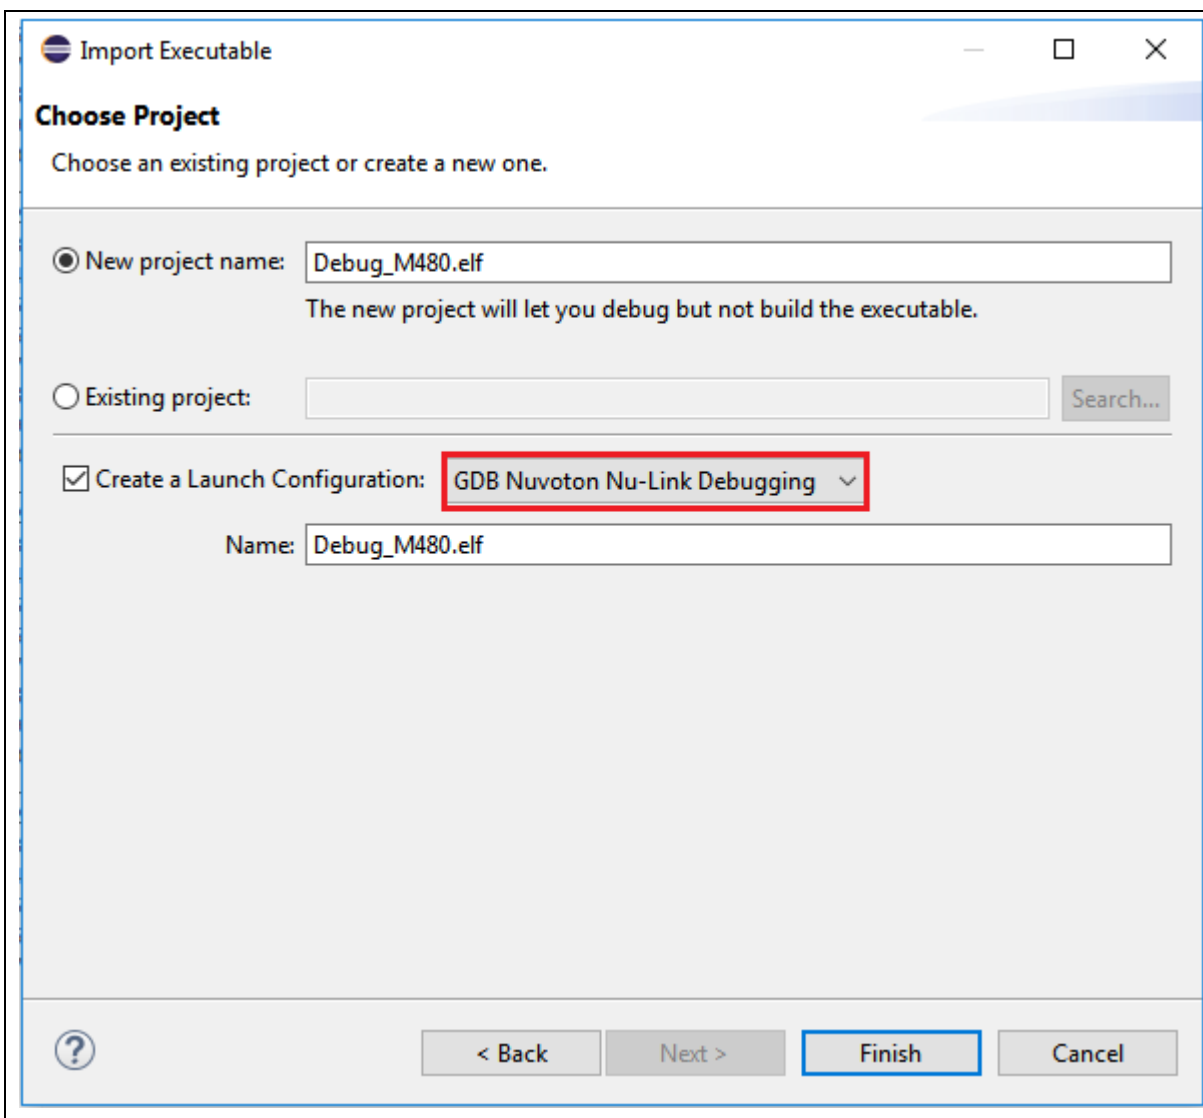

Figure 4-28 Choosing GDB Nuvoton Nu-Link Debugging
3. Choose GDB Nuvoton Nu-Link Debugging as a Launch Configuration (referring to Figure 4-28).